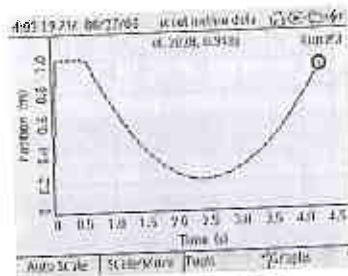

Fig. 3: Position graph
-The Graph screen will display the plot of position and time as shown figure 3.